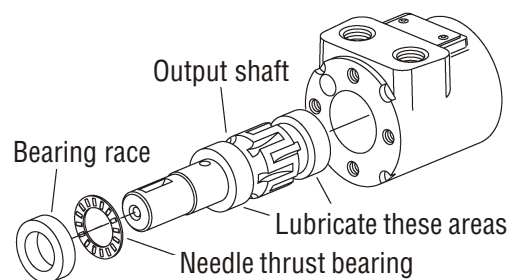

Figure 5-28, Output Shaft
8. Lubricate the output shaft with hydraulic oil, then install the output shaft into the housing. (Figure 5-28)